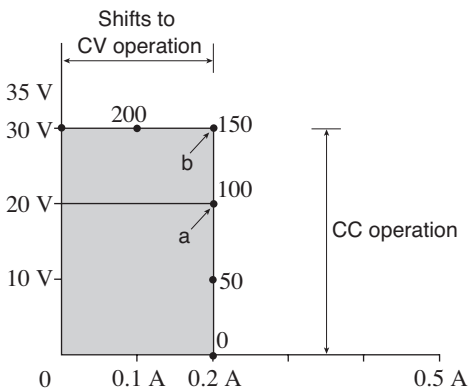

Fig. 2-6 Constant-current (CC) operation
For example, apply 0.2 A to a 100 Ω load using the PMR35-1.2DU to perform constant-current (CC) operation, as illustrated in Fig. 2-6. Supposing that a maximum voltage of up to 30 V can be provided to the load, set the PMR35-1.2DU output to 30 V/0.2 A. Since 0.2 A is supplied to the 100 Ω load, voltage of 20 V is applied to the load (point “a” in the figure). If the resistance of the load changes to 150 Ω , the output of the power supply is 30 V/0.2 A (point “b” in the figure). As shown in the figure, when the resistance of the load is between 0 Ω and 150 Ω , the power supply maintains the output current at 0.2 A. If the resistance of the load rises above 150 Ω , the power supply automatically shifts to constant-voltage (CV) operation and thus maintains the voltage at 30 V. Simultaneously, the output current falls below 0.2 A.